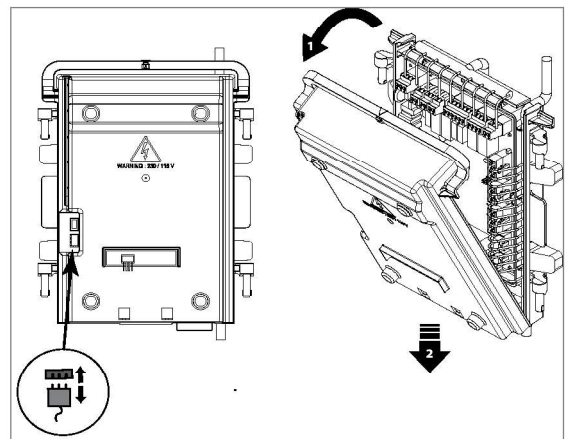

Fig. 3 - Prestige Solo & Excellence - Removal of Control Box Front Cover
9. Open the front cover of the electronic box (See Fig. 3). Discard the cover.